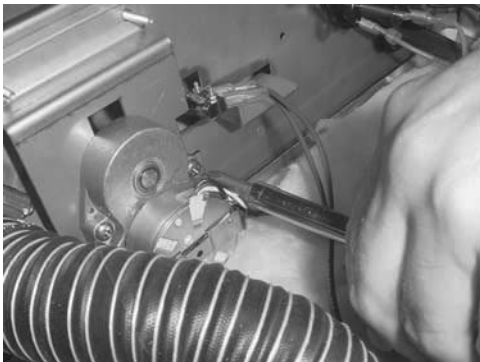

Figure 3-57
4. Using a Phillip's-head screwdriver, remove the vent motor from the bracket. Figure 3-57.